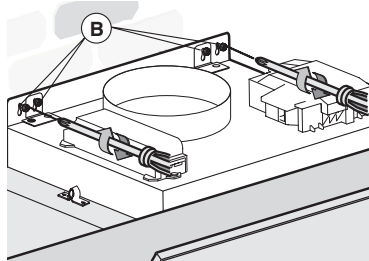
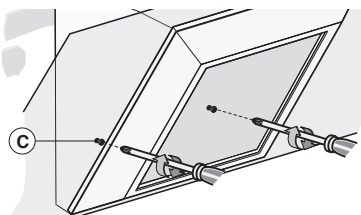

Fig. 9
Fig. 10
3. Mark the remaining fixing screws on the wall and remove the extractor. Drill four holes, insert wall plugs and hang the extractor back on the main fixing screws. Fix the extractor permanently by screwing four screws into the fixed install points B and C, as shown (fig 9) and (fig 10).